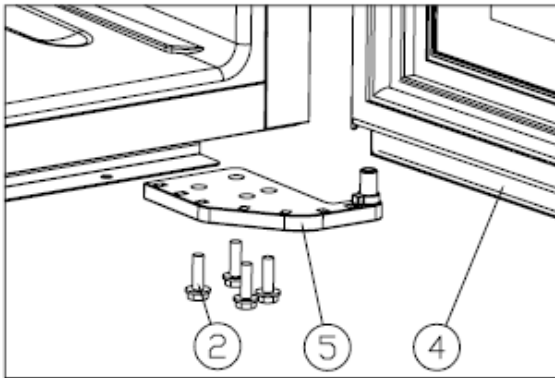

Figure 2
- ✦ Unscrew the M5*16 screws ②, dismantle the right lower hinge ⑤. [Figure 2]